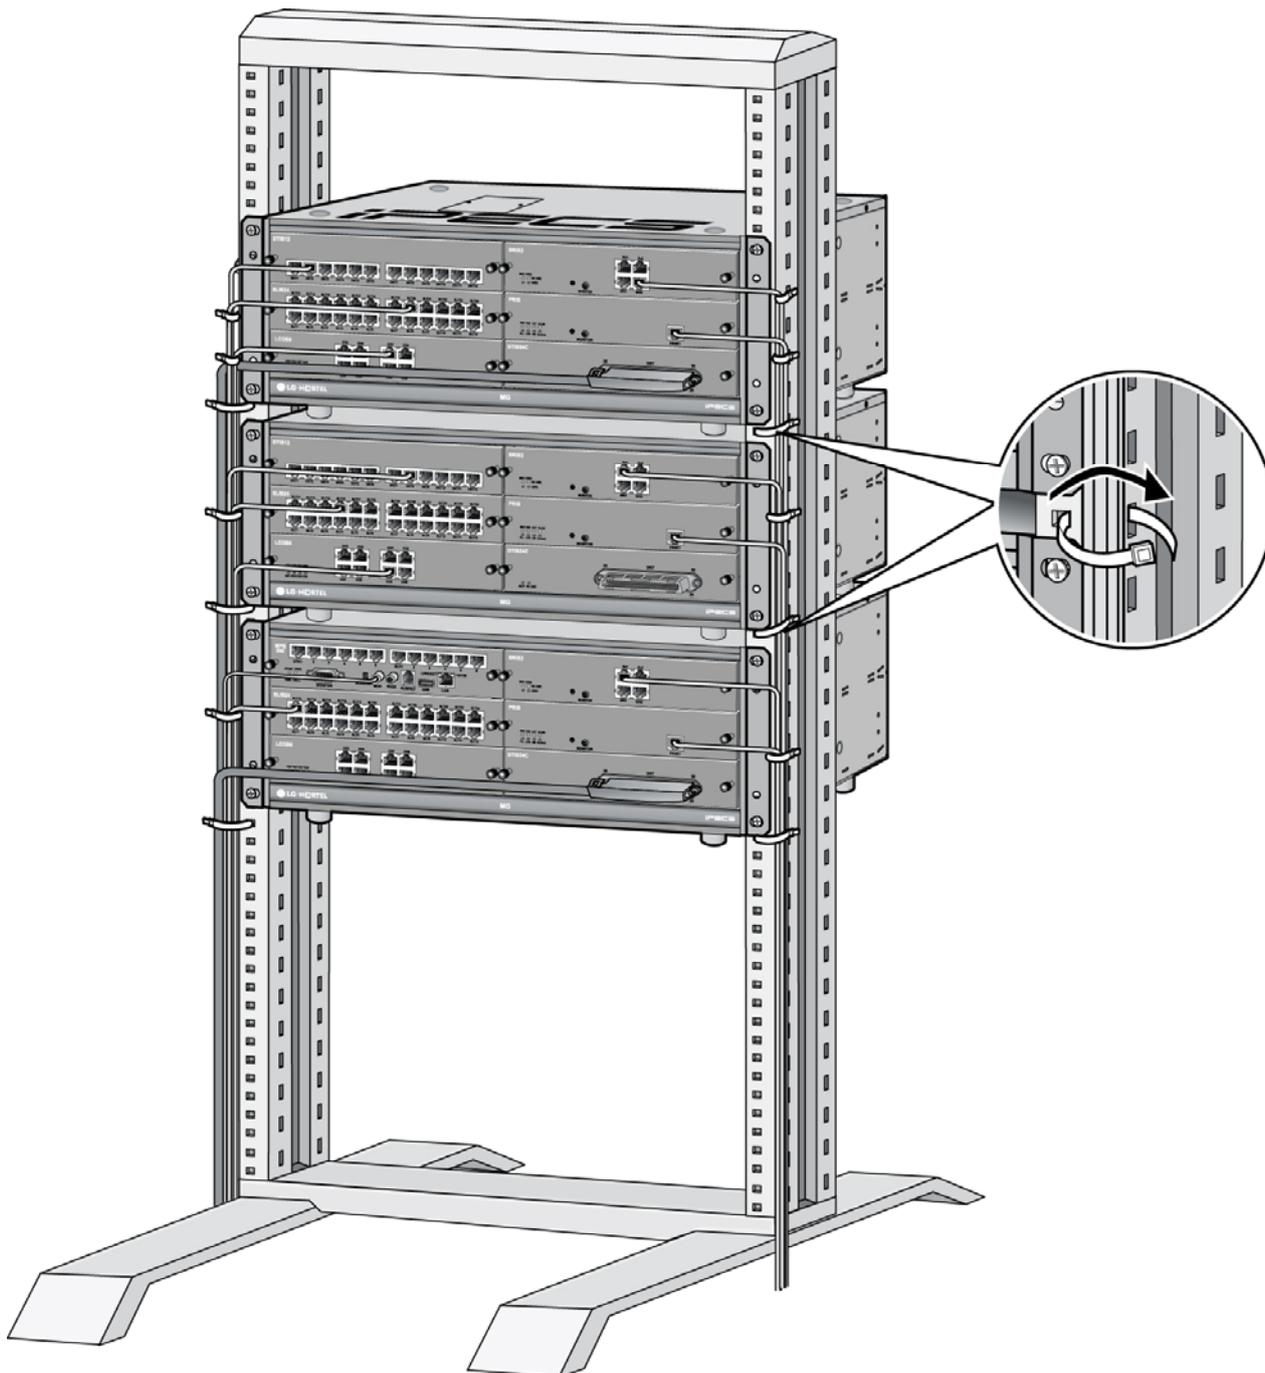

Figure 5.2.2 Rack Mount Wiring
2. Connect cables to the CO/STA port and the MOH/LAN/RS-232C ports as shown in Figure 5.2.2.